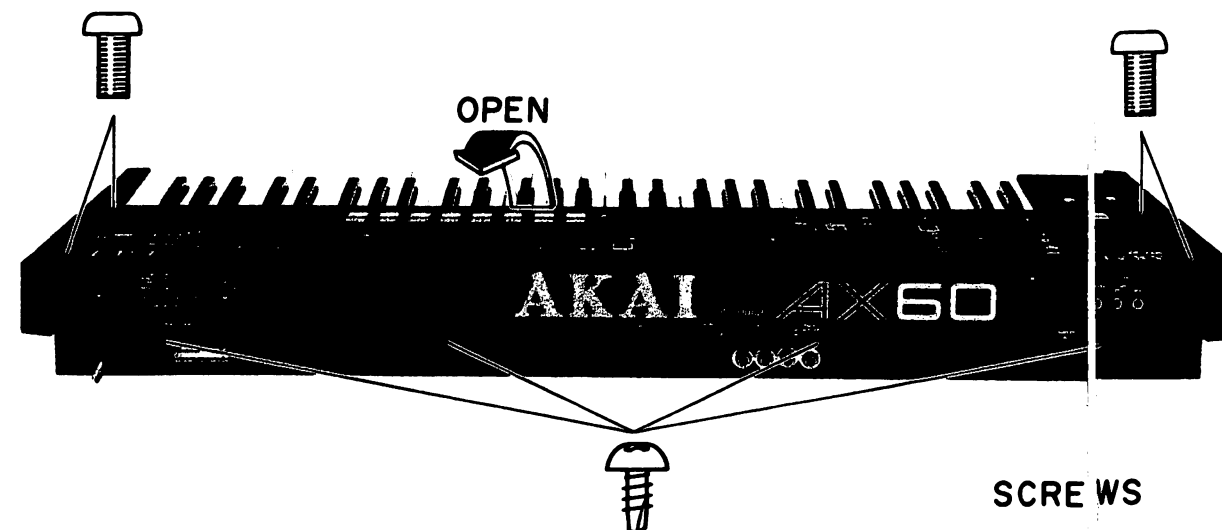
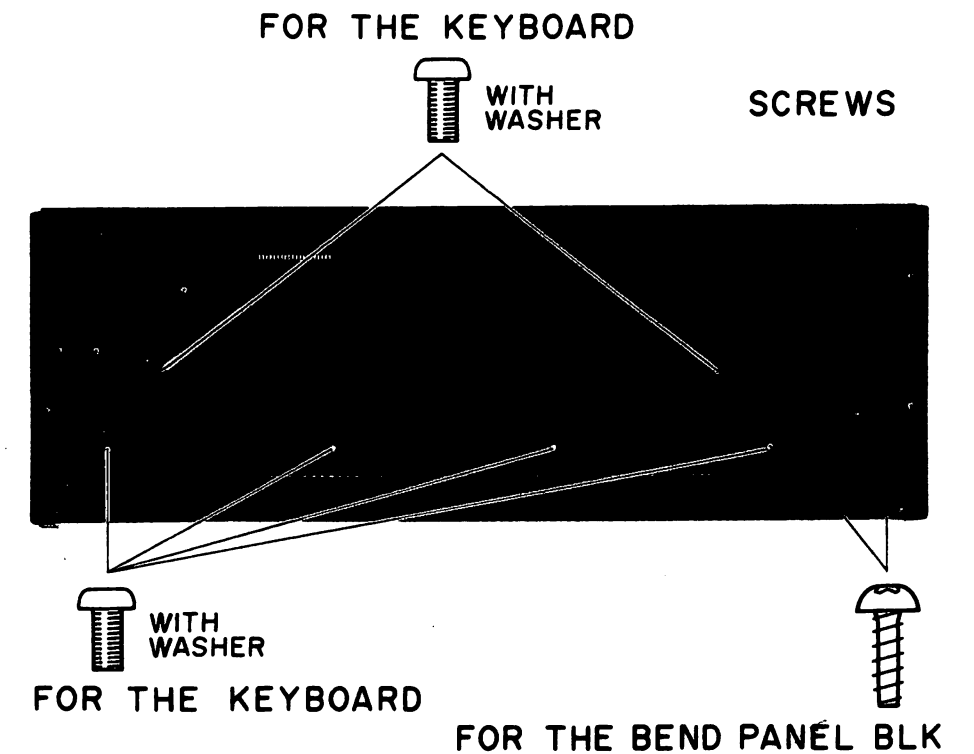
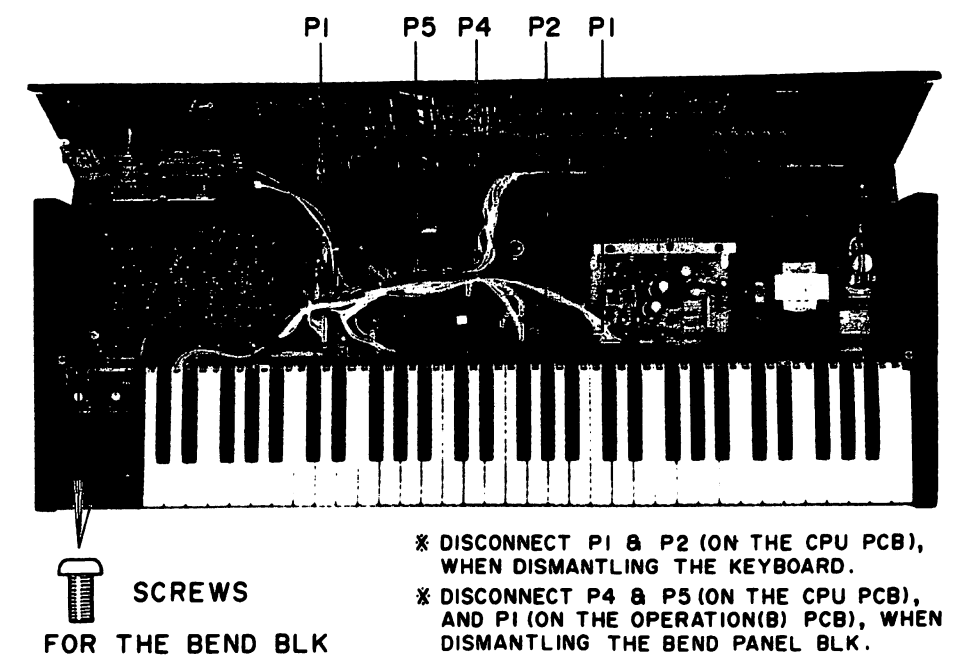

Fig. 2-1
Fig. 2-2
Fig. 2-3
2-1. HOW TO OPEN THE FRONT PANEL (Refer to Fig. 2-1)
1) Remove 8 screws as shown Fig. 2-1, and open the Front Panel as shown Fig. 2-3.
2-2. HOW TO DISMANTLE THE KEYBOARD (Refer to Fig. 2-2 and Fig. 2-3)
2-3. HOW TO DISMANTLE THE BEND PANEL BLOCK (Refer to Fig. 2-2 and Fig. 2-3)
1) Remove 6 screws as shown Fig. 2-2 and Fig. 2-3, and disconnect the connectors P4, P5 on the CPU PC Board and P1 on the OPERATION (B) PC Board.